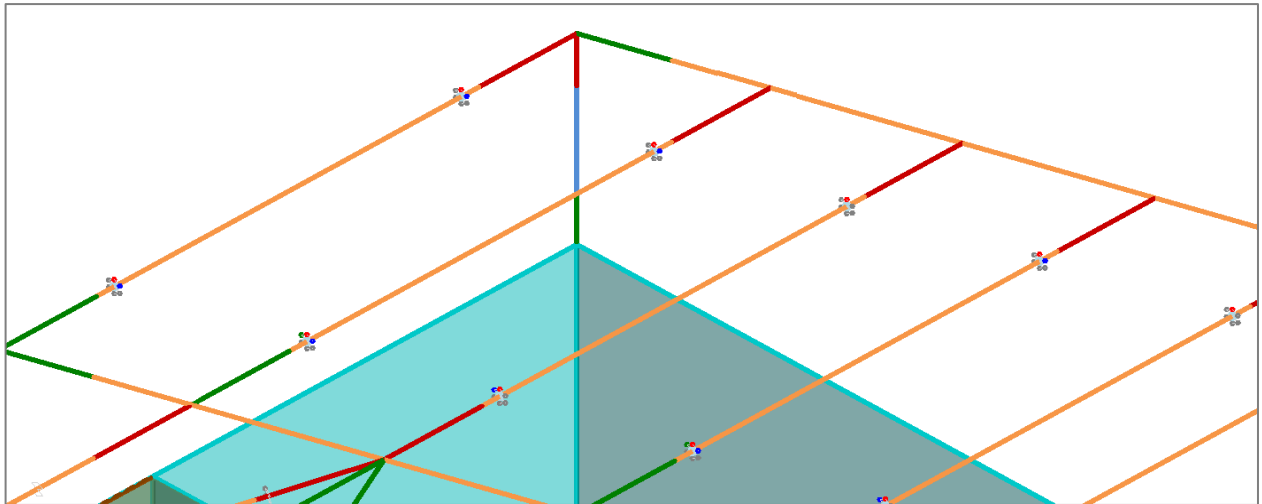

Fig. B.12. Hinge visualization
- **Hinges** — displays of hinges on the Revit analytical model (Fig. B.12).